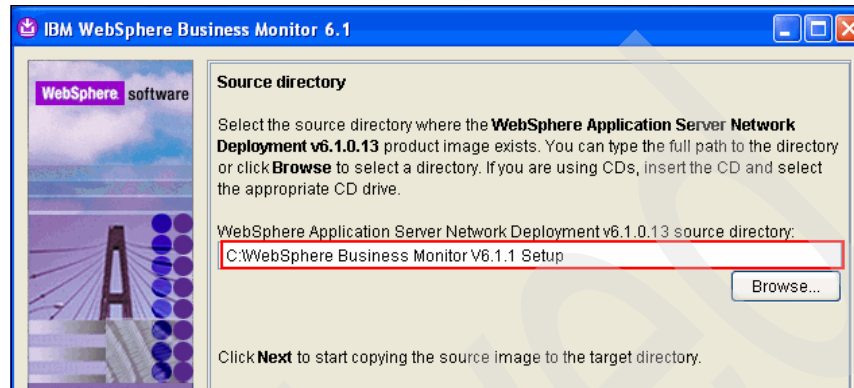

Figure 3-16 WebSphere Business Monitor 6.1 installation preparation: WebSphere Application Server Network Deployment V6.1.0.13 source directory
7. In the Source directory panel (Figure 3-16), in the WebSphere Application Server Network Deployment v6.1.0.13 source directory field, type the path of the installation image. In our example, we type C:\WebSphere Business Monitor V6.1.1 Setup. Click **Next**.